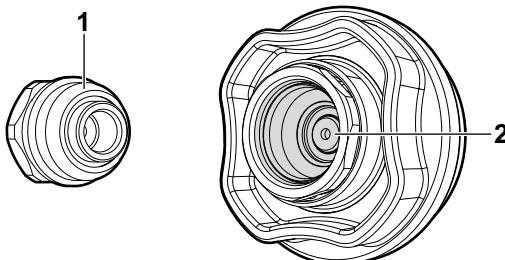

Fig. 33 Quick connect coupling components
- Ensure that male adapter (Fig. 33, 1) is fitted on the cylinder valve port.